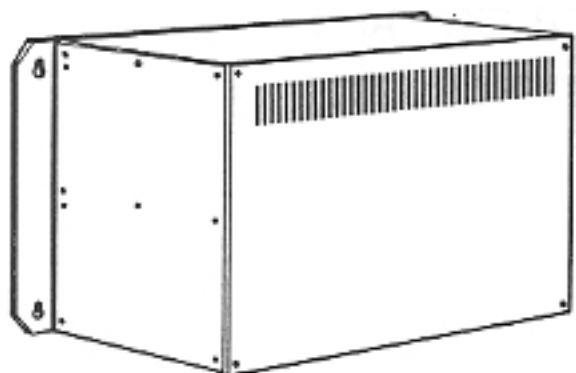

Figure 1-1 KEY SERVICE UNIT ( KSU )
**2.02** The TCX-128 Key Service Unit ( KSU ) is a wall-mounted, convection-cooled device equipped with replaceable Printed Circuit Boards ( PCBs ). The primary KSU Cabinet ( Figure 1-1 ) can accommodate up to 64 extensions and 24 CO telephone lines. This KSU provides 32 links ( talkpaths ) of which 20 are reserved for CO lines, 10 are available for either CO or Intercom ( ICM ) calls and 2 are reserved exclusively for Paging and Background Music.
**2.03** When more than 64 extensions are needed or more than 24 CO lines are required, an expansion cabinet ( Figure 1-1 ) must be added to the system. This expansion cabinet can accommodate an additional 64 extensions and 8 CO lines. The expansion cabinet does not increase the number of links in the system.